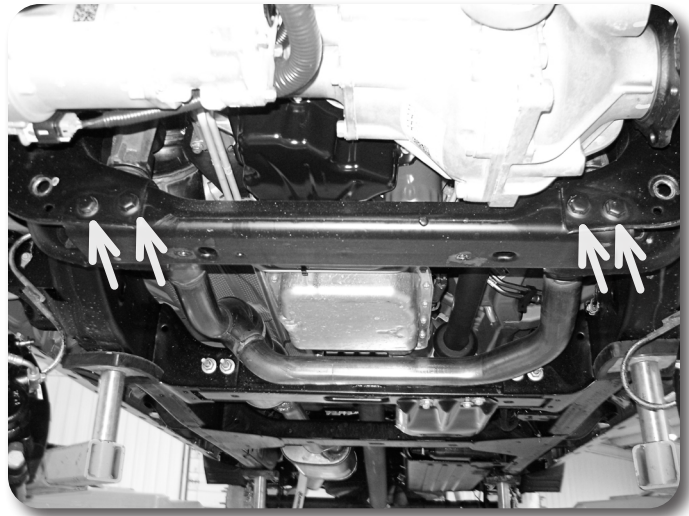

Figure 10
17. Remove the factory rear crossmember from the vehicle by removing the 4 bolts. **Figure 10**. Crossmember and hardware will not be reused.